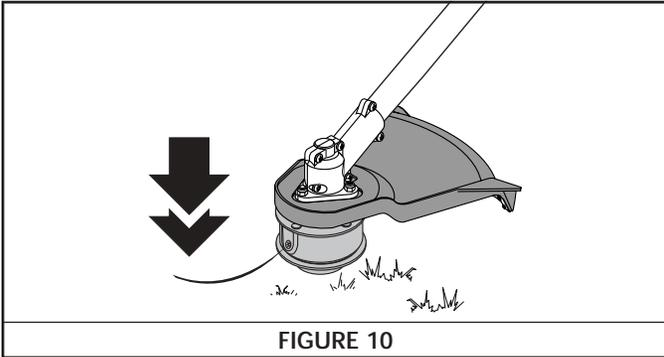

FIGURE 9
**WARNING:** Avoid accidental starting. Make sure you are in the starting position when pulling the starter rope, as shown in Figure 9. To avoid serious injury, the operator and unit must also be in a stable position while starting.
Before operating the unit, stand in the operating position. See Figure 9. Check for the following: